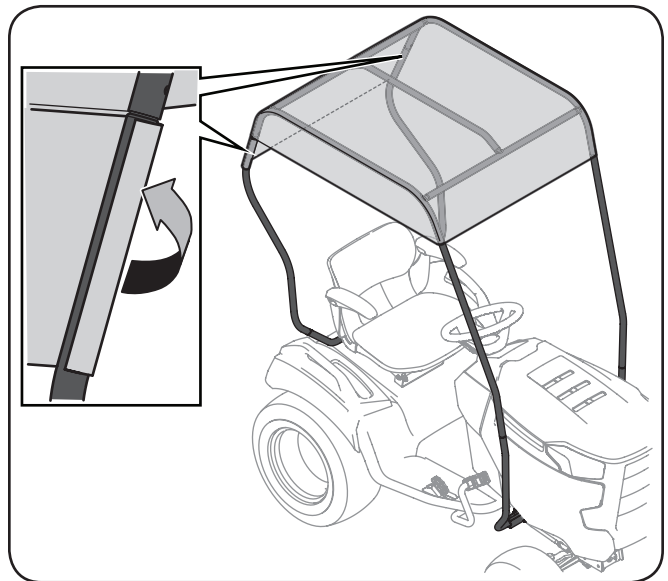

Figure 3-8
- There are two longer straps on the rear mesh flap of the sun shade. Wrap these around the rear supports and secure as shown in Figure 3-8.